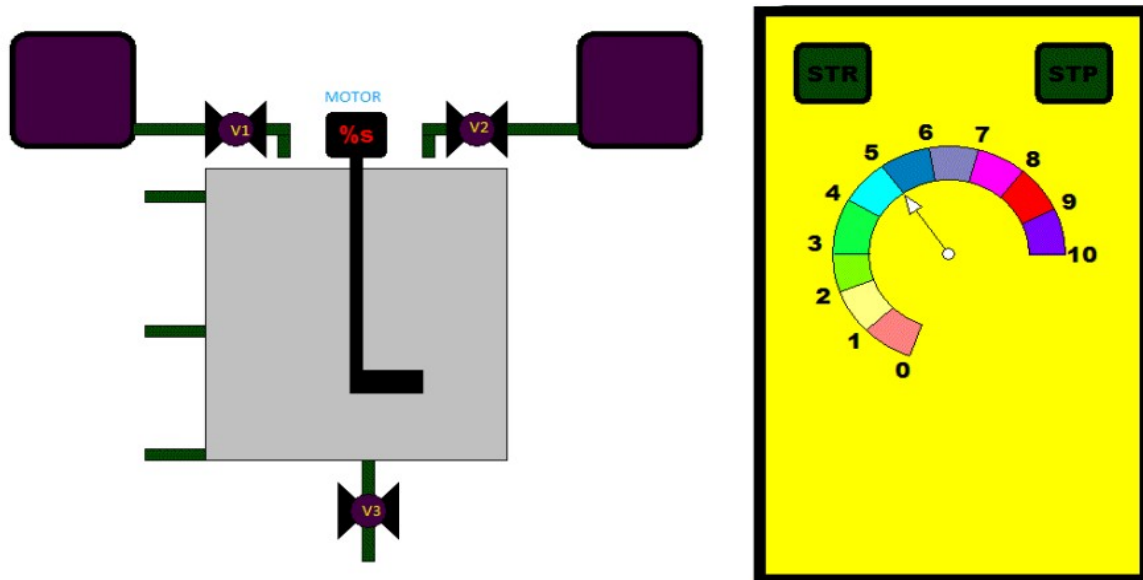

Figure Q1c
c) **Figure Q1c** is chemical mixing process when I0 is pressed, Q0/ V1 will get on resulting material 1 inlet to mixing tank. As material 1 comes in mixing tank, low level sensor I2 will get on and further middle level sensor I3 will be on. As I3 is on, Q0/V1 should get off and Q1/V2 should get on. As V2 is on, material 2 will come in mixing tank resulting increase in level and reaches to I4 sensor. As I4 is on, Q1/V2 will get off and motor Q2 will get on for 10 seconds. After 10 seconds, motor gets off and drain